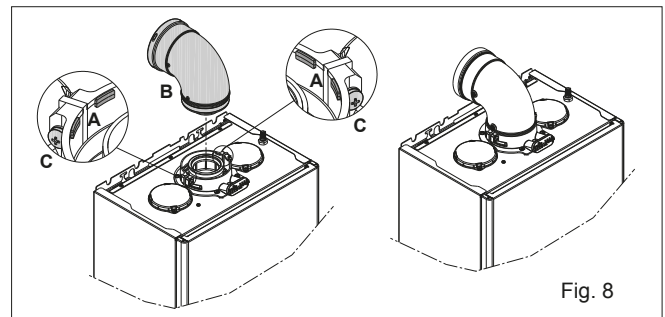

Fig. 8
NOTE (Fig. 8): The appliance incorporates a 'click-fit' flue connection. Ensure that both screws 'C' on the 'click-fit' have been slackened off. Ensure that the connector is correctly aligned with the 'click-fit' and insert it into the 'click-fit' until it clicks into position (this is when the tabs at points 'A' are located in the groove of the flue bend connector). Both screws (C) should now be tightened.